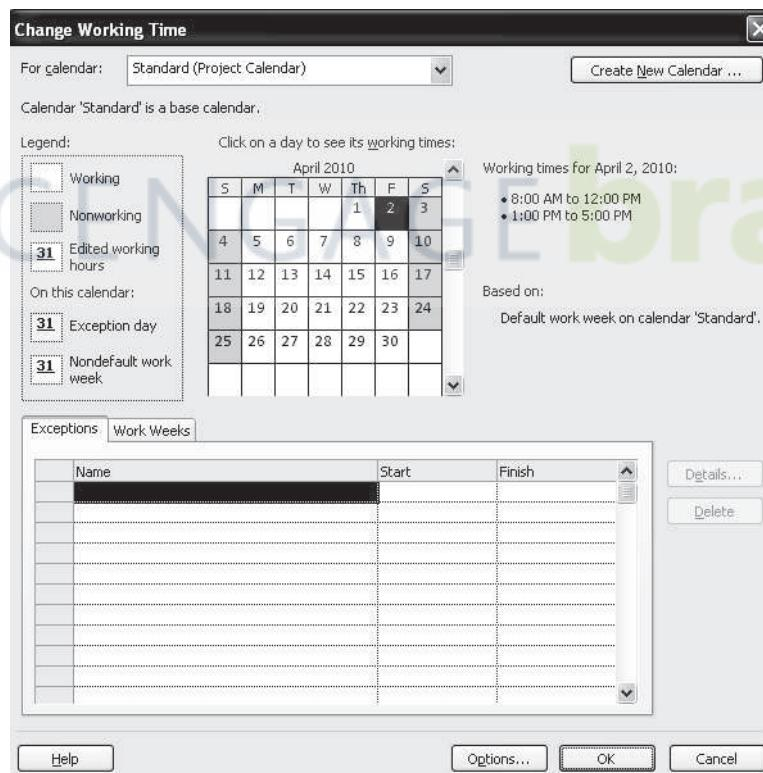

FIGURE A-57 Change Working Time dialog box
1. Open a new file and access the Change Working Time dialog box. After opening a blank file in Project 2010, click the Project tab, and then click the **Change Working Time** button under the Properties group. The Change Working Time dialog box opens, as shown in Figure A-57.